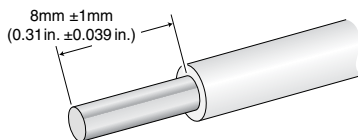

Figure 16 Stripped Wire
4. With a 22-gauge wire-stripping tool, strip the three wires in the tray cable coming from the DC input power source to $8\text{mm} \pm 1\text{mm}$ ($0.31\text{in.} \pm 0.039\text{in.}$), as shown in Figure 16 on page 29.